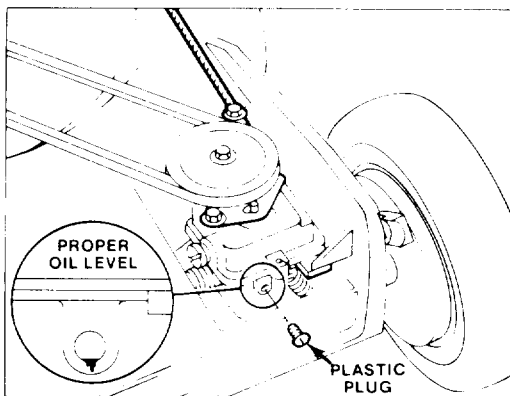

Figure 16
2. CHECKING GEAR OIL LEVEL (Fig. 16) — Position mower on level surface and clean around plastic plug. Remove plastic plug and watch for oil to ooze out of hole. If gear oil oozes out, quickly install plastic plug because oil is at proper level. If oil does not flow, add gear oil: see step 3.